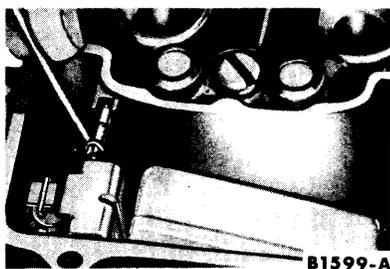

FIG. 11—Float Shaft Retainer Removal
1. Using a hook, disconnect the float shaft retainer from each float (Fig. 11). Remove the float and shaft, and the fuel inlet needle, anti-splash washer, and clip from each fuel bowl.